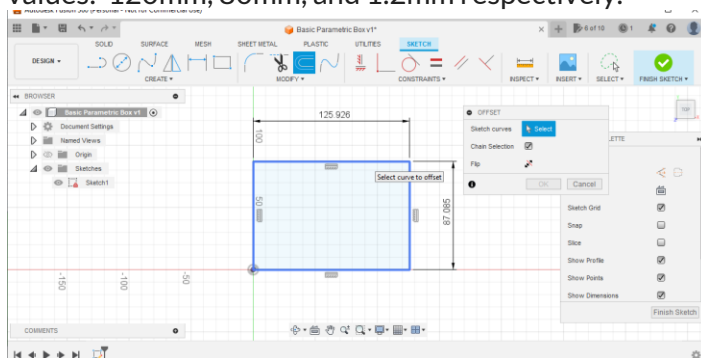

Figure 8: Applying an offset to a curve
2. Click the rectangle outline as in Figure 8